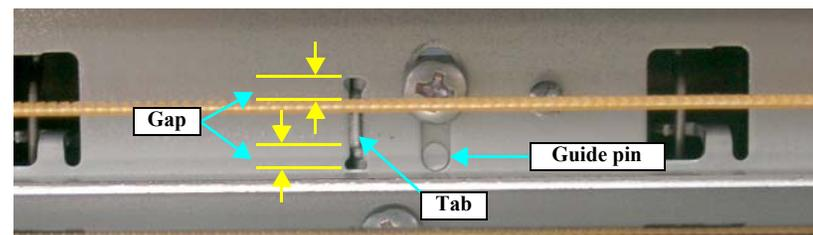

Figure 4-29. Checking the Position of Tab on the Guide Roller LD
- Align the guide pin and tab on the 0 Digit Side Guide Roller LD with the positioning holes on the Main Frame, and tighten the Guide Roller LD (0 Digit Side) with the screws. (See Fig.4-29.)